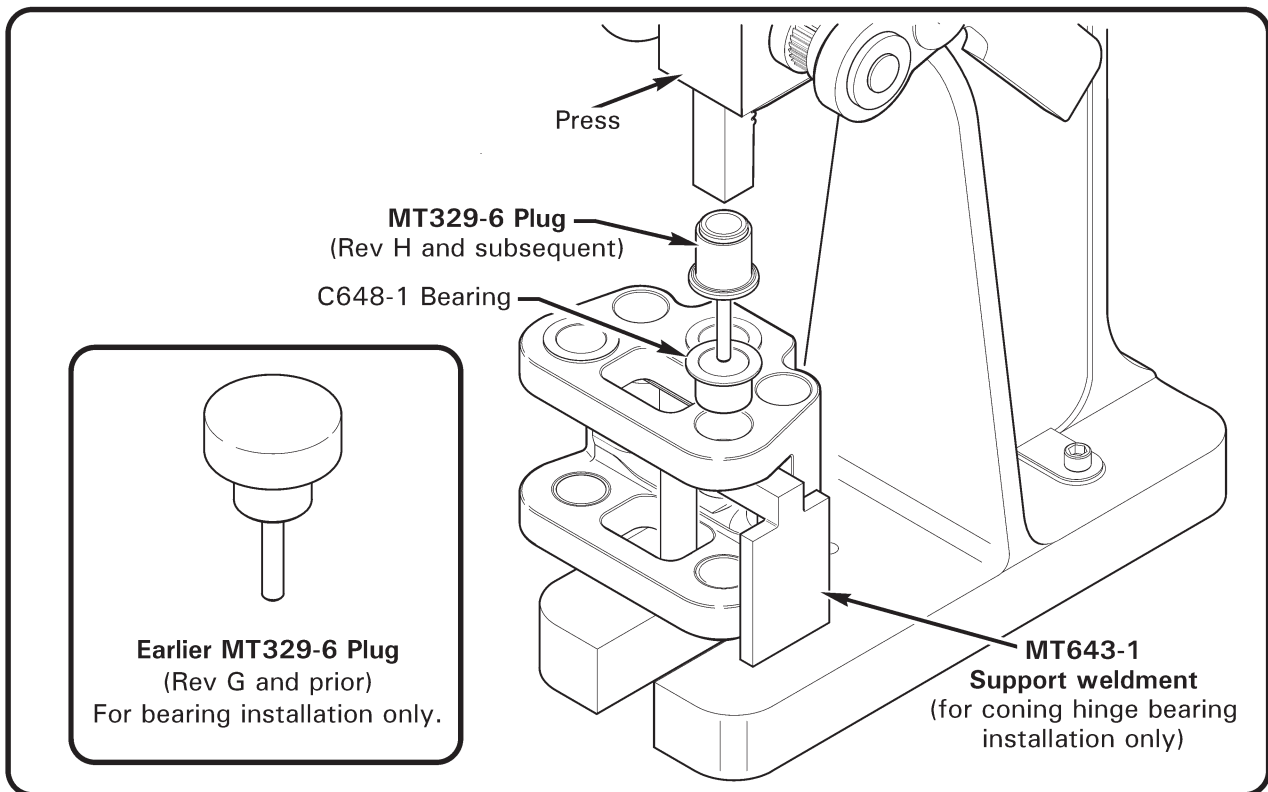

FIGURE 62-4B MAIN ROTOR HUB BEARING INSTALLATION
4. Refer to Figure 62-4B. Verify bearing mating surfaces are smooth and clean and apply light coat of § 20-75 approved primer (chromate primer preferred). If visible, orient coning hinge bearing's Teflon® liner seam toward top of hub. While primer is wet, press in new bearing using MT329-6 plug (and MT643-1 support if replacing coning hinge bearing) until bearing flange is completely seated against hub.